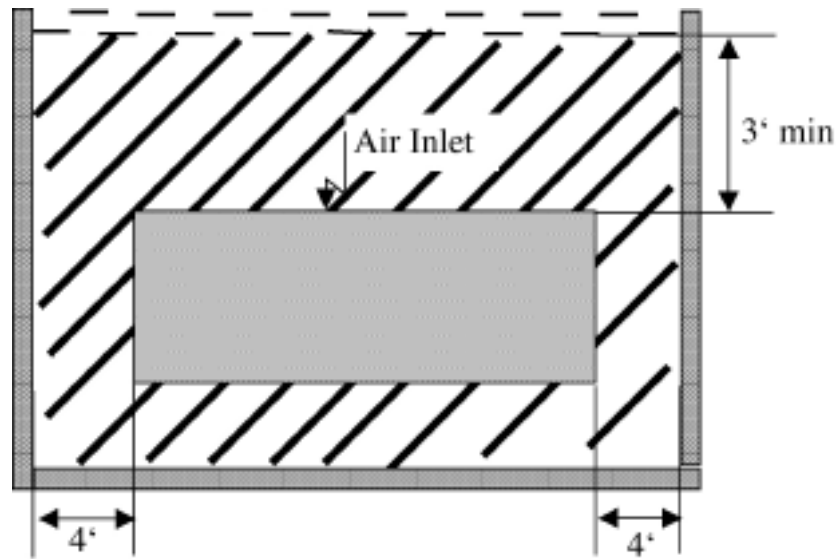

Figure 6: Plan view of unit enclosure with louvered wall & closed top installation
- b. Install the cooling tower with the limitations shown in Figure 6 for uniform air distribution.